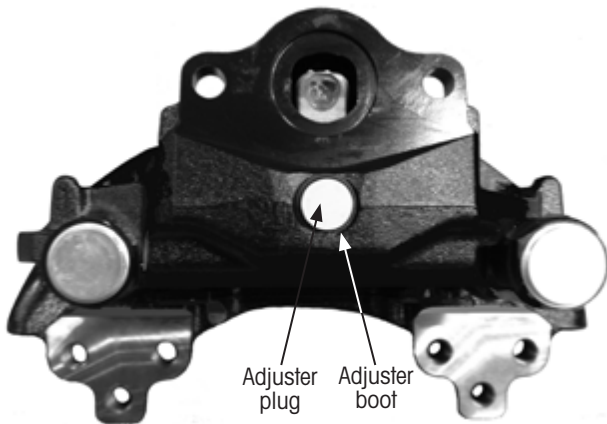

Figure 37: Inserting adjuster plug
13. **Push** a new adjuster plug into the adjuster boot (Figure 37). Ensure the plug has a tight seat.